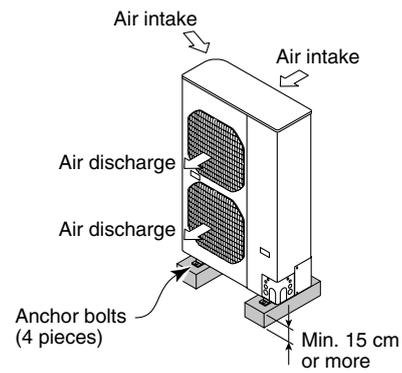

Fig. 2-8
- Provide a solid base (concrete block, 10 x 40 cm beams or equal), a minimum of 15 cm above ground level to reduce humidity and protect the unit against possible water damage and decreased service life. (Fig. 2-8)